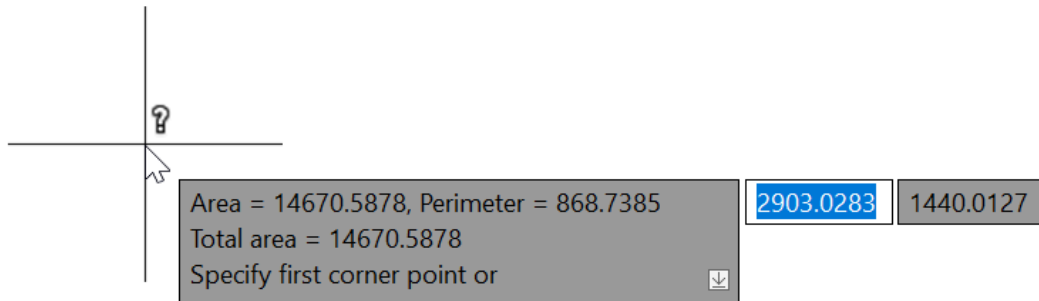

Figure 6.8: The calculated area of the saw teeth displayed, as well as the perimeter, and total area
6. You will see the area displayed in a small gray box in the AutoCAD drawing area, listing **Area**, **Perimeter**, and **Total area**. There will also be the corner prompt again, expecting you to start tracing another area to add. This is shown in *Figure 6.8*.